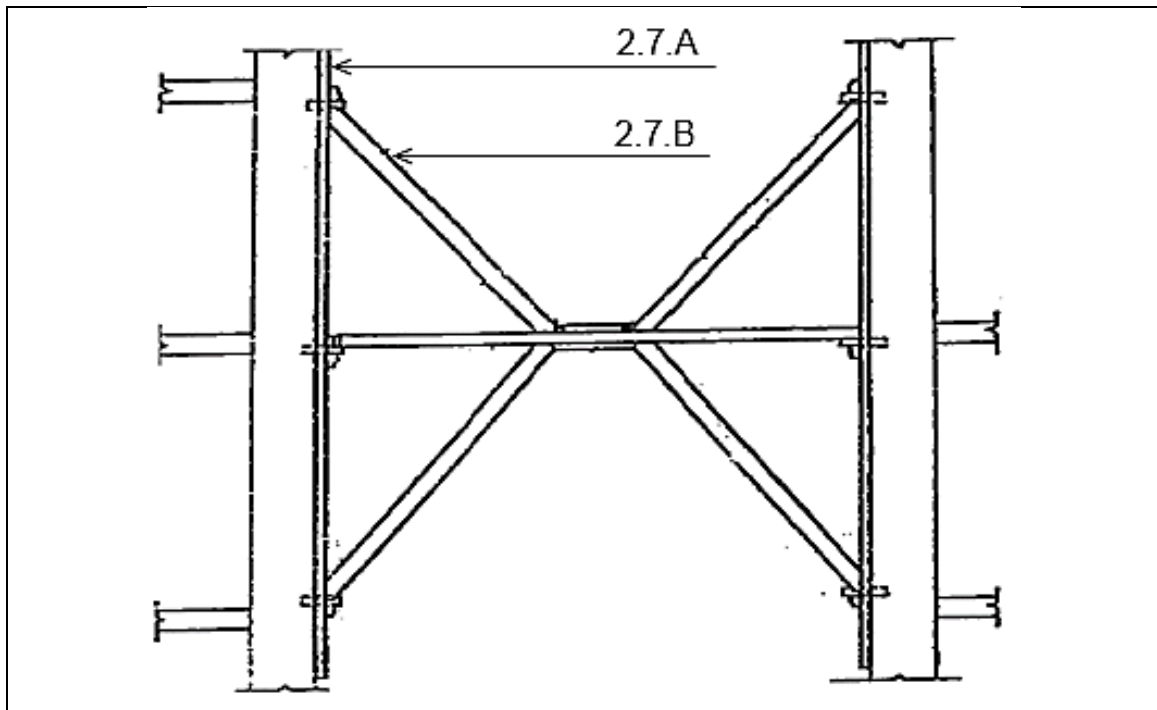

FIGURE 2.7
2.7 Answer the following questions with regard to the shoring construction in FIGURE 2.7: